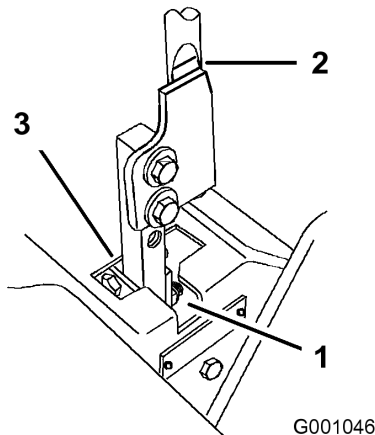

Figure 53
5. Move lever to the neutral position but not locked (Figure 53).
7. Check where the control lever is relative to the notch in the console (Figure 53). It should be centered, allowing the lever to pivot outward to the neutral lock position.